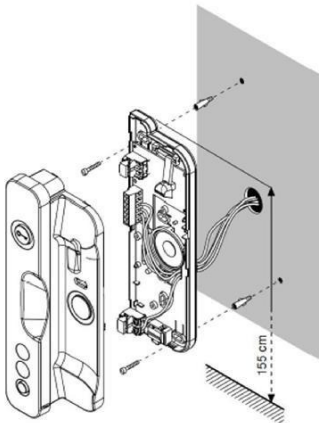

Fig 2.
2. Attach the doorphone to the wall using two supplied bolts (Fig. 2).